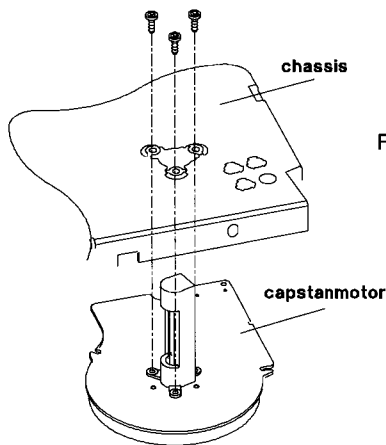

Fig. 12
- Remove the belt (pos.126) on the underside; then free the pin from the sensor print (see section 4.1.10). Lift sensor print part vertically (it is plug and socket connected to the capstan motor print). Move both sections of the sensor print clear of the capstan motor.
- Remove the three capstan motor fixing screws (Fig. 12) and withdraw the capstan motor downward from the drive assy. The reassembly is carried out in reverse order. Make sure that the capstan is free of grease.